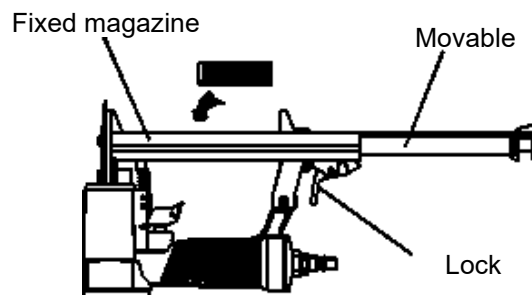

Fig. 2
1. Check whether the tool needs to be lubricated. If necessary, add two drops of oil into the compressed air connection, see fig. 2. If you are using a lubricator, check whether you need to top up with oil.